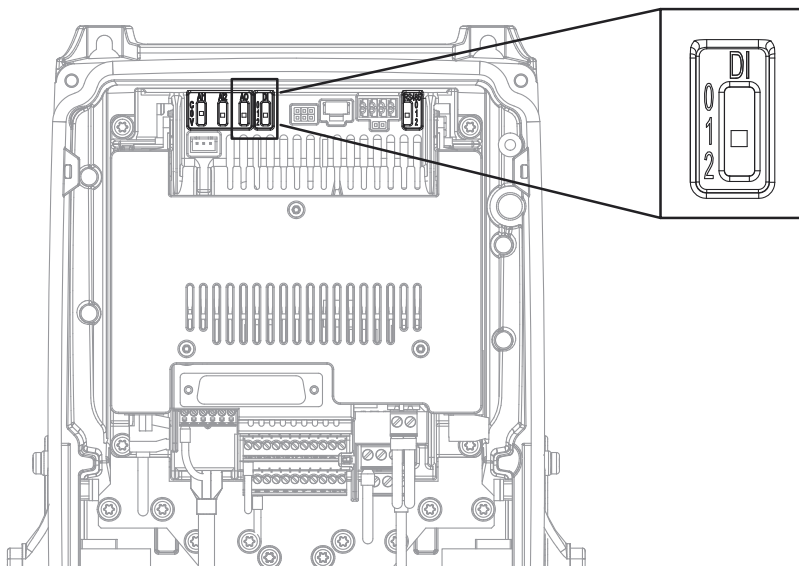

Fig. 30 Digital inputs dip switch
The Grundfos RSI drive embodies five so-called dip switches that allow for three functional selections each. The shadowed terminals in the table of section 5.1.2 Standard I/O terminals can be functionally modified with the dip switches. The switches have three positions: C, 0 and V. The switch in the position "C" means that the input or the output has been set in current mode. The switch in the position "V" means voltage mode. The middle position "0" is for Test mode. See fig. 30 to locate the switches and make appropriate selections for your requirements. Factory defaults are: AI1 = V; AI2 = C, AO = C.
- 4. If Grundfos RSI AC drive is the last device on the bus, the bus termination must be set. Locate the DIP switches to the top of the control unit (see fig. 30) and turn the right most switch to position "1". Biasing is built in the termination resistor. See also step 6.